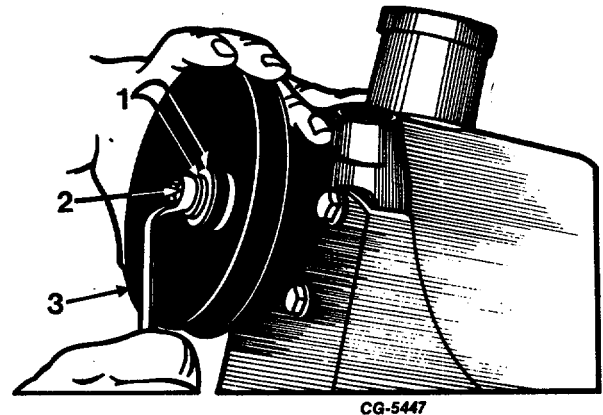

Fig. 155 Pulling Power Steering Pulley Against Shoulder of Pump
59. Place power steering pump pulley on shaft aligning the pulley with the keyway and tap gently with a soft hammer. Use a 5/16" x 18" x 1-1/4" long bolt and washers to pull the pulley against the shoulder of the pump, Figure 155. Then replace the long bolt with the shorter bolt and tighten to specified torque.